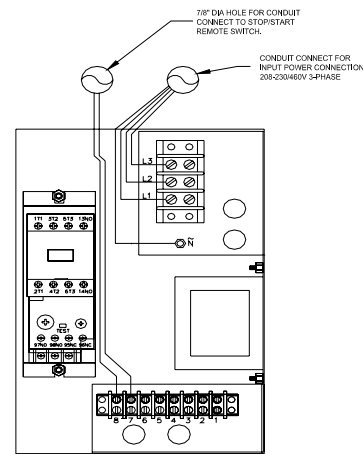

FIGURE 4
2. Make connections from power supply to terminals L1, L2, and L3. Wire size should be suitable for the motor HP that was supplied for your application (5HP or 7½HP). Make connections from remote start/stop switch to terminals 7 and 8 (see Figure 4).